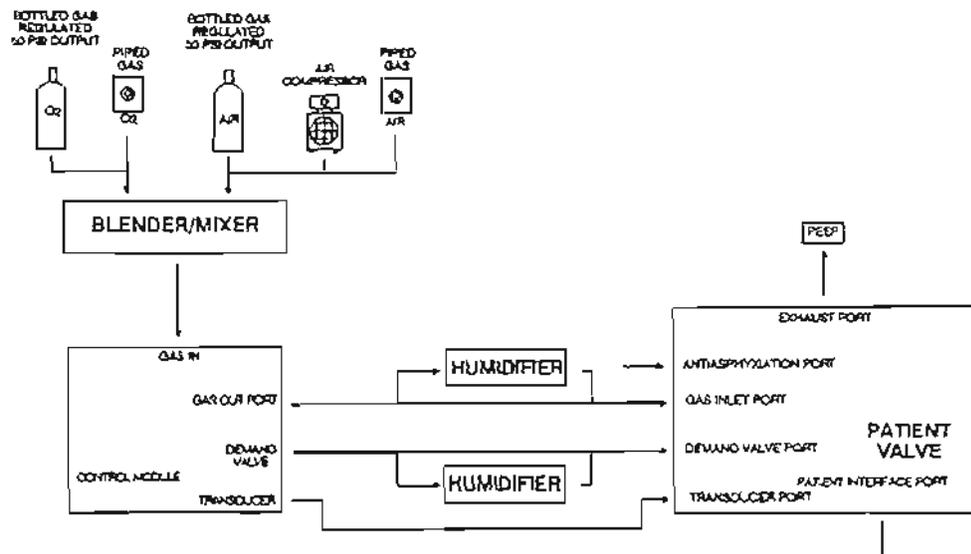

Figure 2-7. Alternate blender/mixer configuration.
- b. Additional configuration interconnections, with optional accessories, are illustrated in figures 2-7 and 2-8.